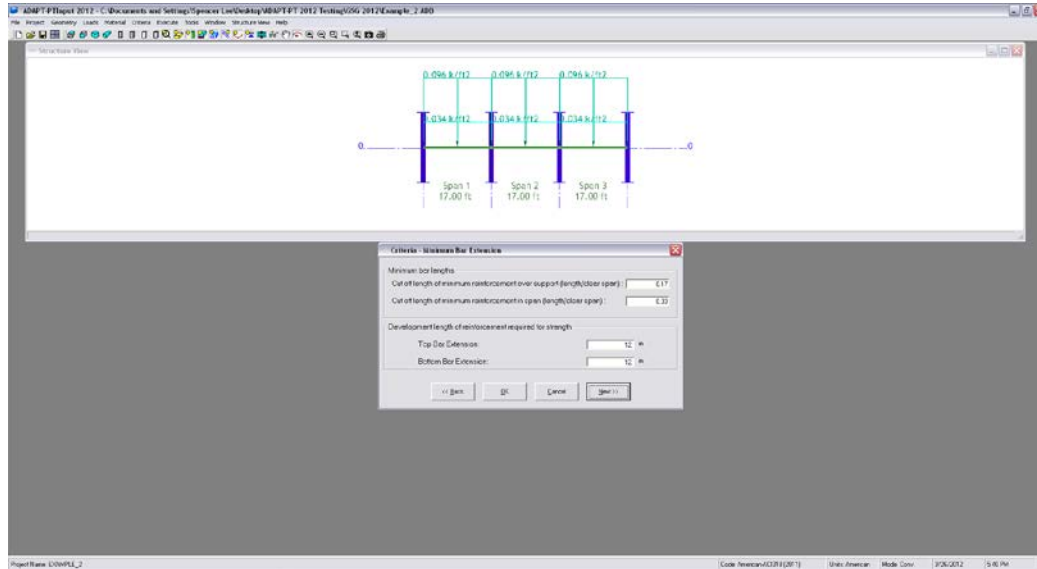

FIGURE 3.1-18
3.1.5.6 Specify Minimum Bar Length and Bar Extension of Mild Steel Reinforcement (Fig. 3.1-18)